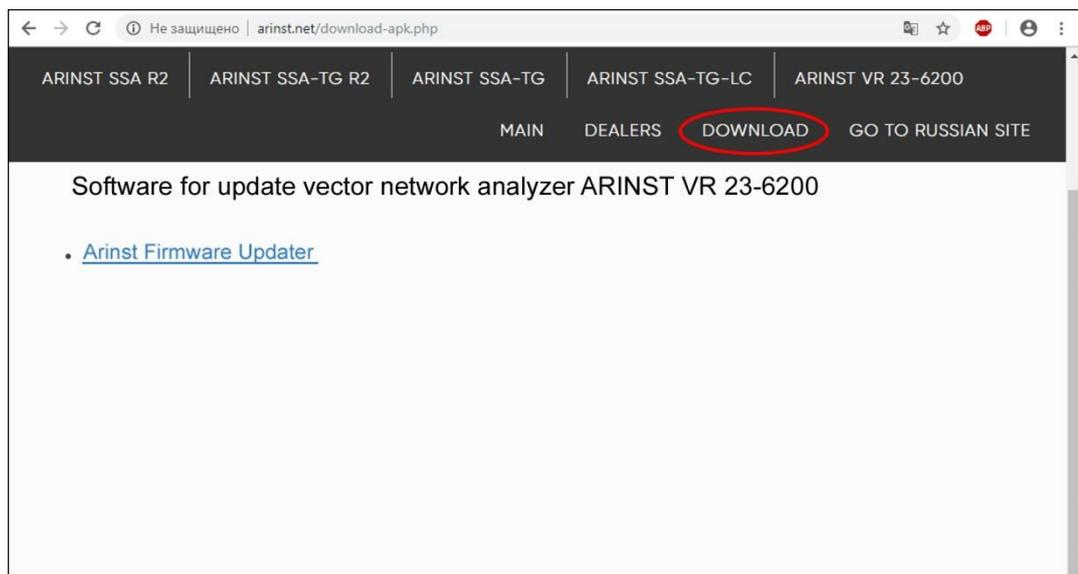

Figure A1.1 – Software download for updating the device
1.1. Visit the official ARINST website by typing in the address bar of your browser www.arinst.net. Go to the **DOWNLOAD** section and click on the file *Arinst Firmware Updater* to update the firmware of the vector analyzer Arinst VR 23-6200 (Figure A1.1).